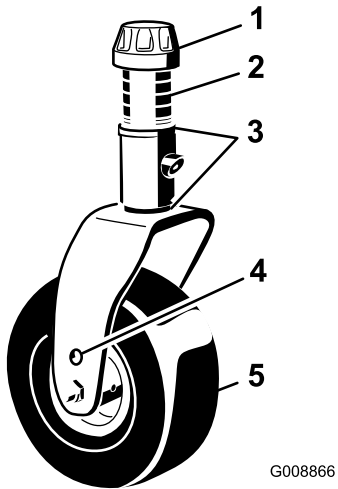

Figure 32
3. Adjust the shims (3 mm or 1/8 inch) on the front caster fork(s) to match the height-of-cut decal (Figure 32); refer to Adjusting the Height of Cut (page 26).